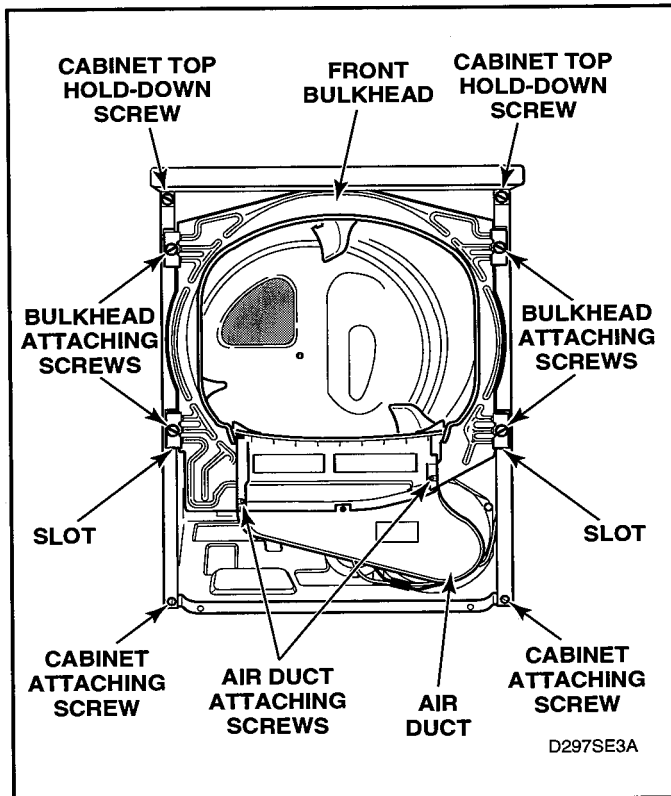

Figure 5-24
- Remove four screws holding bulkhead to front flange of cabinet and lift complete bulkhead assembly out of slots in cabinet. See figure 5-24.
- Remove four screws holding bulkhead to front flange of cabinet. Then, lift complete bulkhead assembly out of slots in cabinet. See figure 5-24.
- Remove four screws holding bulkhead to front flange of cabinet. Then lift complete bulkhead assembly out of slots in cabinet. See figure 5-24.
- Loosen two cabinet top hold-down screws. See figure 5-24.
- h. Remove four screws holding bulkhead to front flange of cabinet. Then, lift complete bulkhead assembly out of slots in cabinet. See figure 5-24.